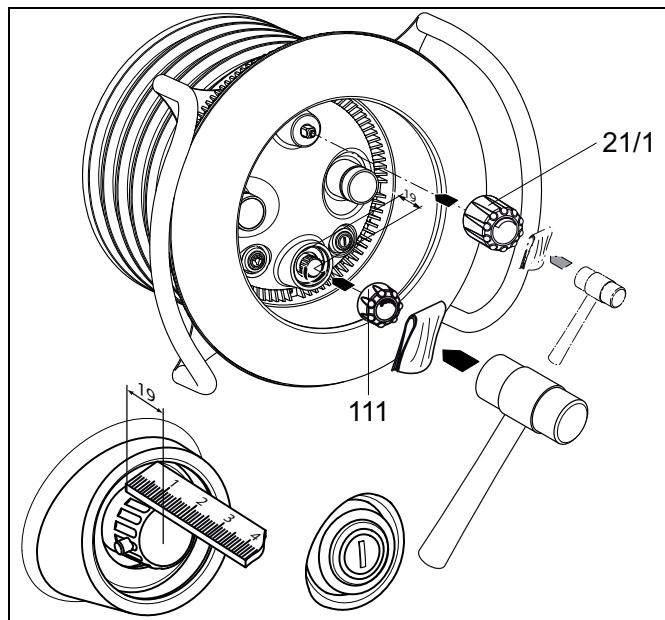

Fig. 13
12. Mount the cap for the volume (**21/1**) and air regulator (**111**) by means of a rubber mallet and a protective cloth (*Fig. 13*).